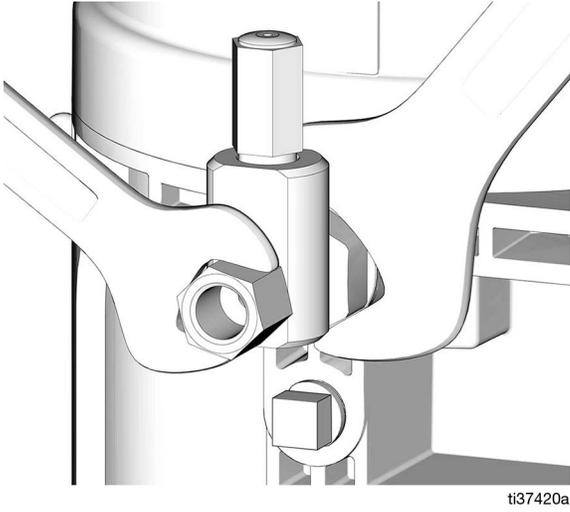

FIG. 25
3. Tighten the pump element fitting using two wrenches working in opposite directions (FIG. 25).